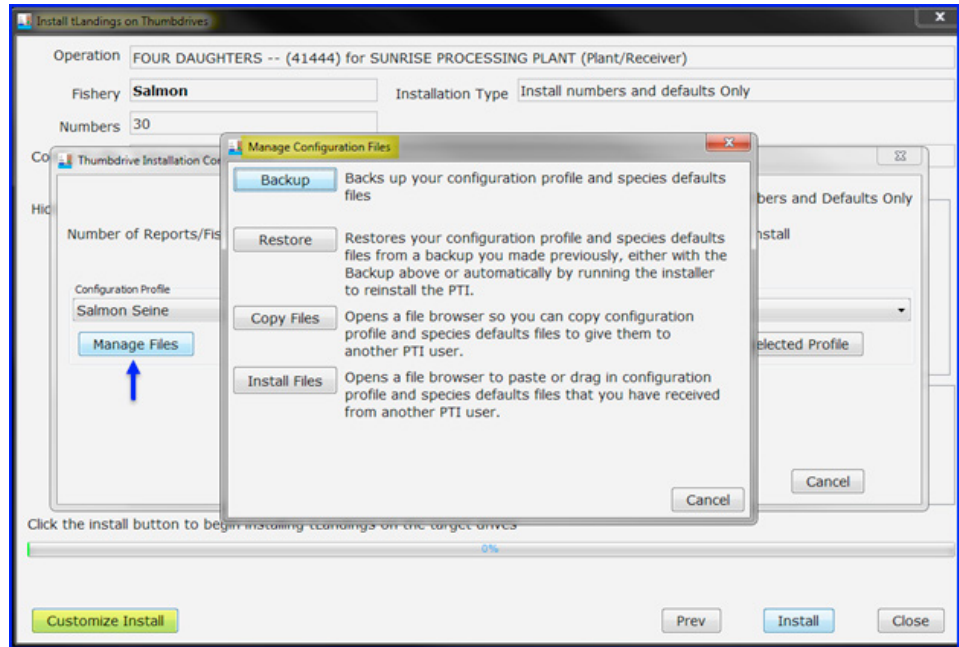

Figure 6.
A. It is important to save all configuration profiles prior to downloading a new version of the PTI. You can save, restore and share configuration profiles from the Manage Files selection (Figure 6).